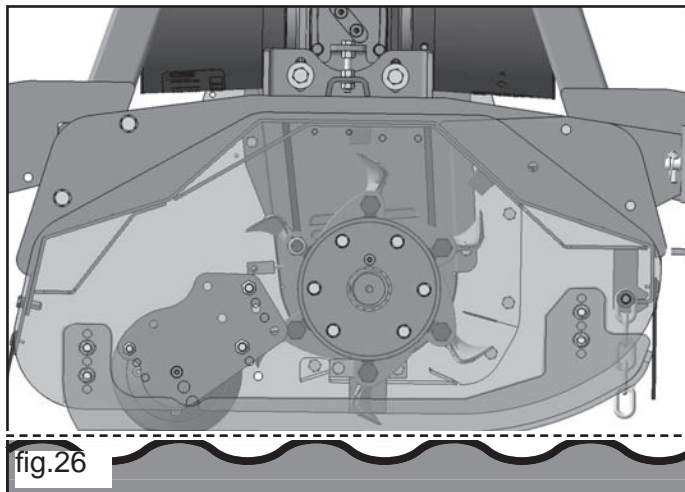

fig.26
4.11 SEITLICHEN KUFEN (fig.26)